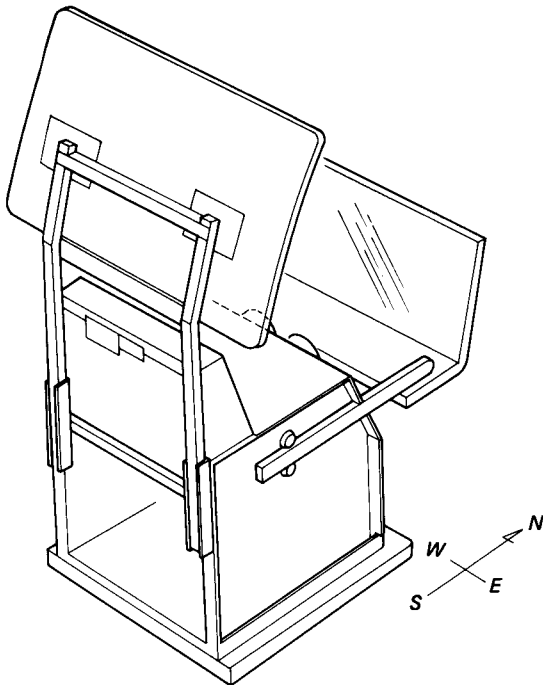

Fig. 3-1
- Set the unit toward the north as shown in Fig. 3-1.